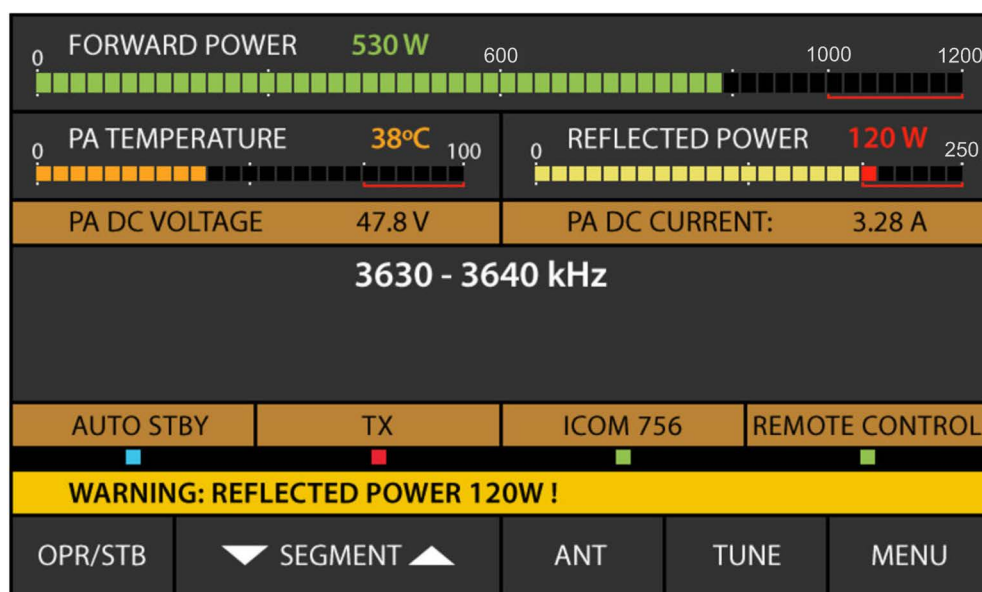
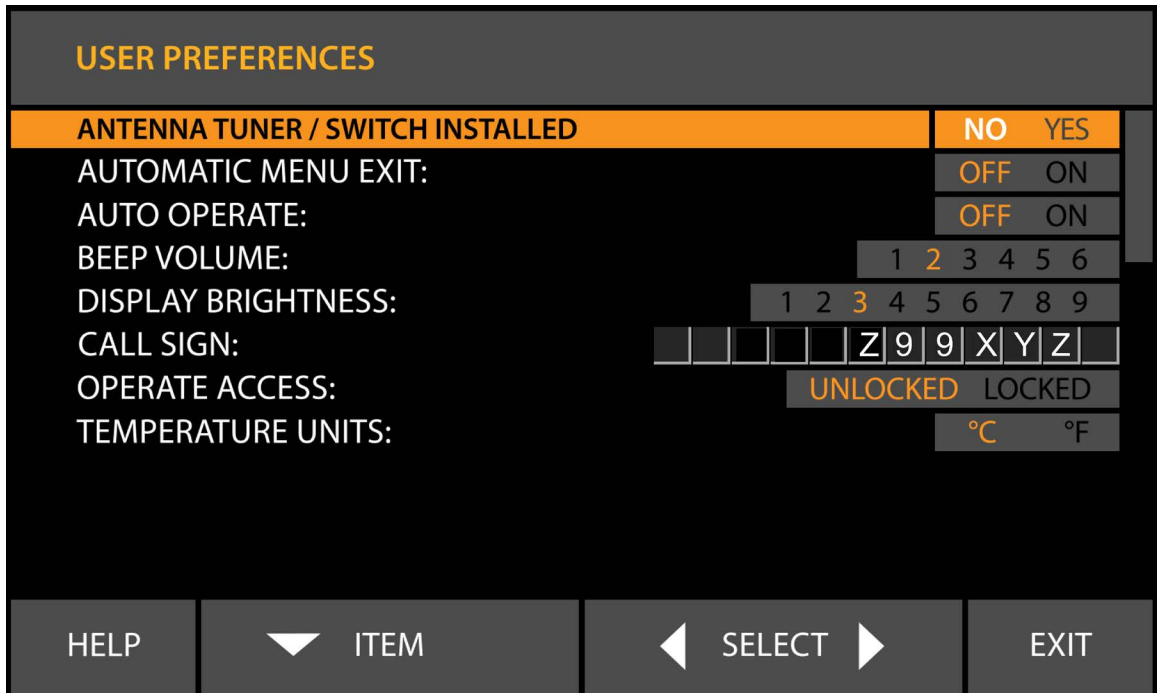

Fig. 4-1 – Appearance of an alarm message
Fig. 5-4 – Menu USER PREFERENCES
- c) **AUTO OPERATE** option can be turned on/off by the operator in the USER PREFERENCES menu – S. 5-4 and Fig. 5-4 - or by a remote control command.
In the event a parameter maximum is exceeded, the amplifier will assess the risk and will trigger one of the three levels of protection, as described in items (a) to (c) below. Every event is accompanied by a warning text on the screen (Fig. 4-1). A sound alarm will be also produced, if set on in the "USER PREFERENCES"– fig. 5-4.
- a) The first protection level is WARNING. When a value watched by the control unit approaches the protection threshold, the transmission is not interrupted, but a message appears – for example "Drive Power too High", "Drain Current too High", or another – Fig. 4-1.